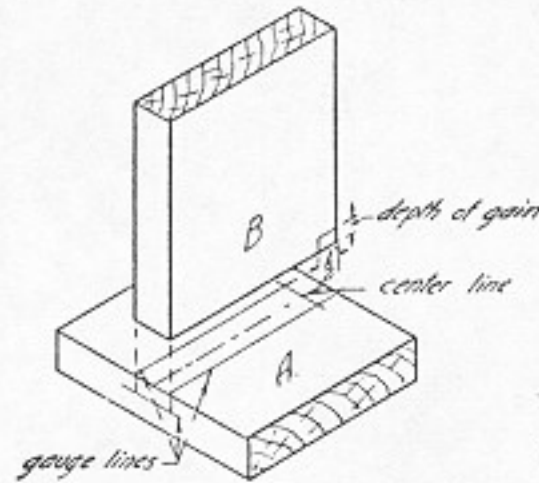

Fig. 182. Layout of gain joint.
2. A center line is marked across A, and half the thickness of B is laid out to each side of it (Fig. 182). The gain should stop $\frac{1}{2}$ in. from the front edge, and this width gauged on both pieces with a marking gauge.